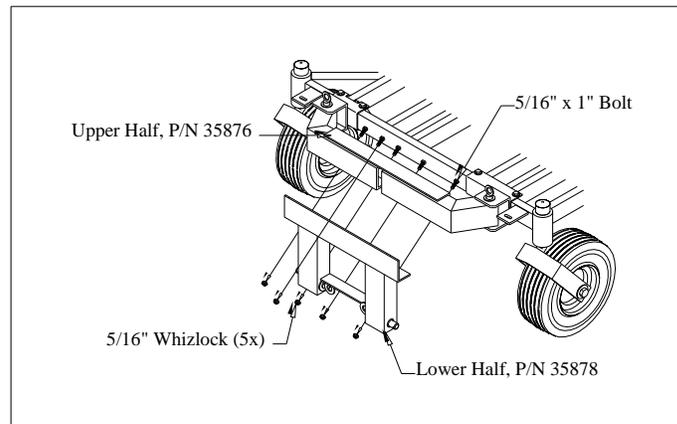

Fig. 2
2. Orient half brackets around crosstubes as illustrated and bolt together two halves using four 5/16" x 1" bolts and whizlock nuts on bottom side of brackets and one 5/16" x 1" bolt on top mount point just right of center (as sitting on tractor) see picture. Once again do not tighten, just snug bolts. **FIG. 2**